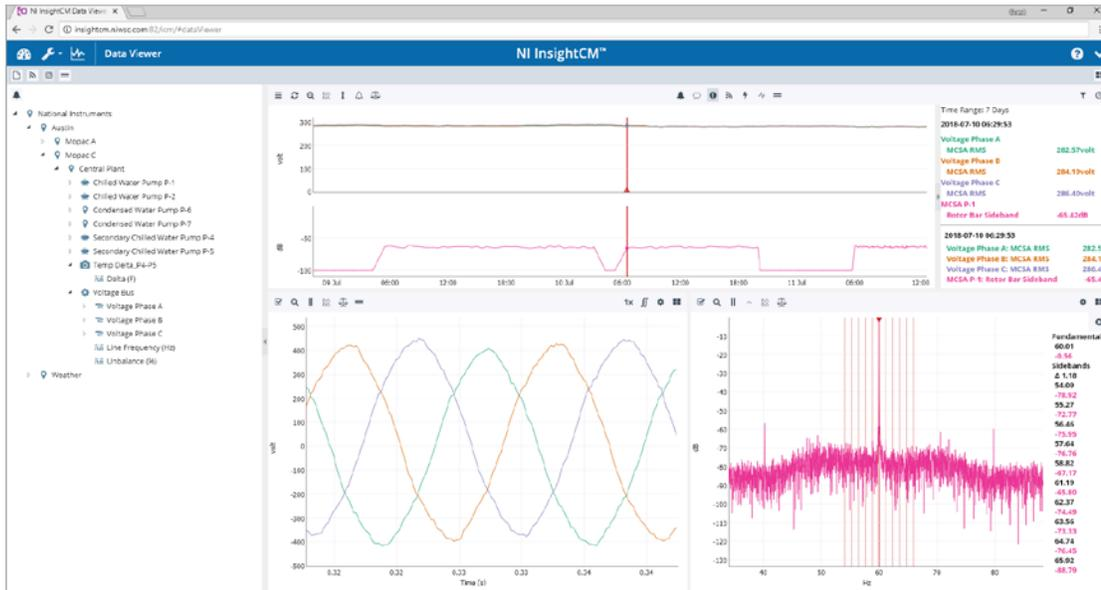

Figure 4. This InsightCM analysis view shows three-phase voltage and the MCSA spectrum.
- **Motor Current Signature Analysis (MCSA)**—InsightCM measures high-speed voltage and current from NI monitoring devices installed near the motor control cabinet to help maintenance teams monitor for inrush currents, phase unbalance, and broken rotor bars. (See Figure 4.)